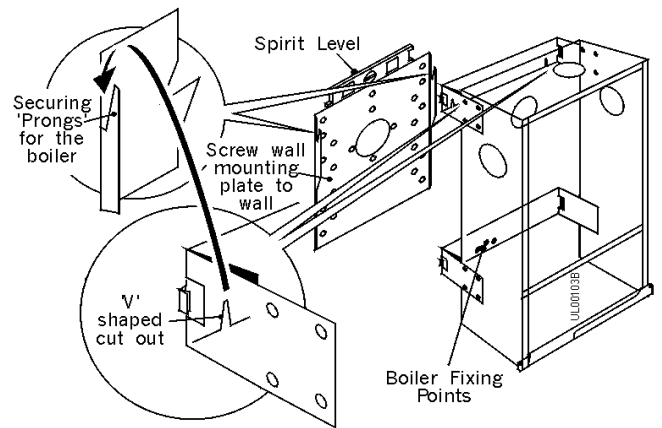

Fig. 11
6. Choose one of the bottom boiler fixing points, mark the position then drill and plug to accept a 1" woodscrew (not supplied). See Fig.11.